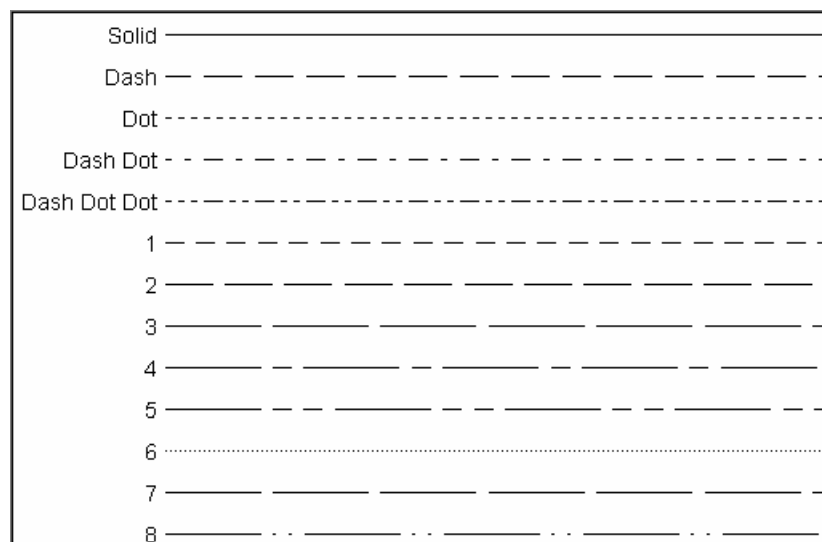

Figure 3.5 - Available styles for drawing lines.
The line Style menu item is used to set the style (solid, dashed, broken, etc.) for drawing lines for various items. TexGraf4 provides for solid lines and twelve (12) styles of broken and dashed lines. The available line styles are shown in Figure 3.5.